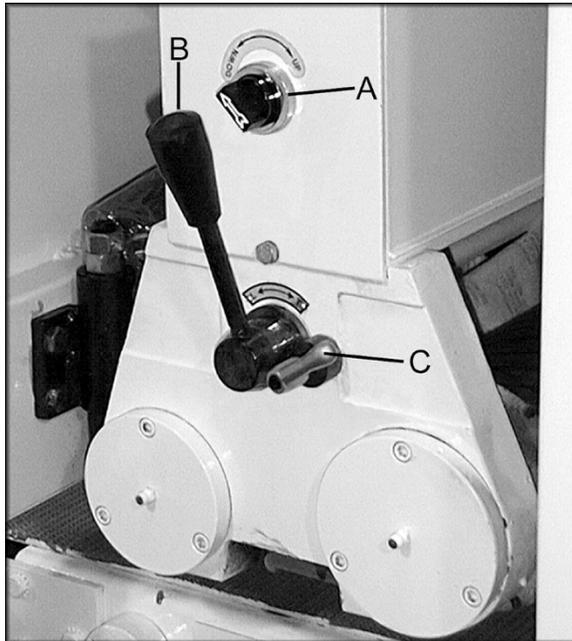

Figure 8
3. Engage the upper roller by turning the knob (A), Figure 8, to the upper position.
4. Adjust the platen with the lever (B) and lock it (C) in the desired position. The platen or main rubber roller can act as the sanding contact, as well as a combination of both.
5. Rotate the main handwheel (A), on the lower cabinet, to raise or lower the table. See Figure